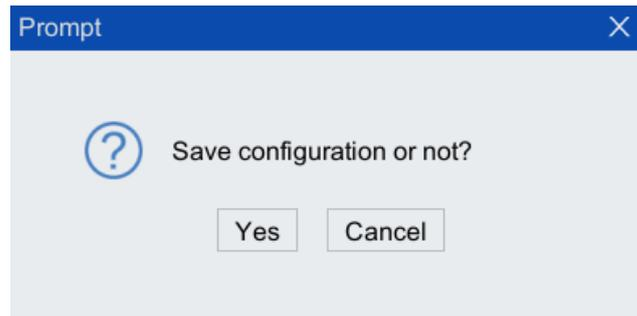

Figure 8-59 "Save Configuration" dialog box
Step2.Select "D_DCB" or "EtherCAT Slave CCB" as slave, click <Browse> button, select the save path, then click <Yes> button to pop up "Save configuration or not?" dialog box in Figure 8-59 and click <Yes> button.